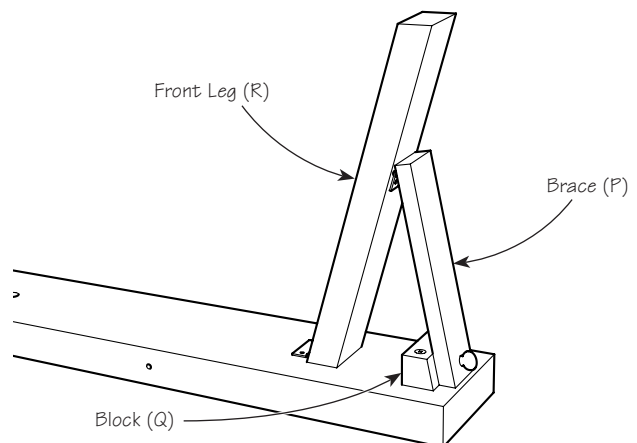

Figure 18: Front leg, folding.
7. Follow the procedure outlined in *steps 3 through 6* to install the front leg as shown in **Figure 18**.